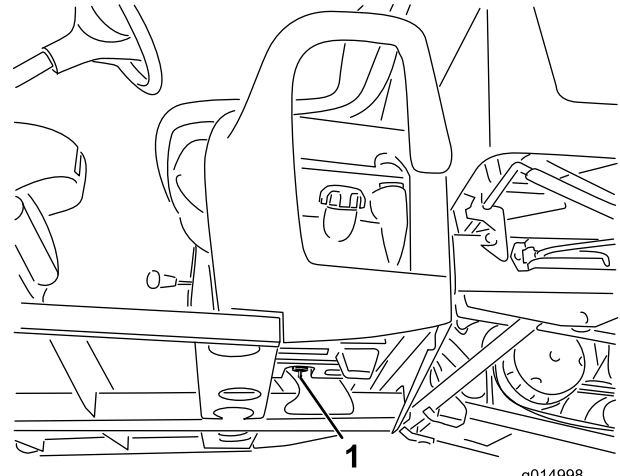

Figure 25
- Check the air filter opening in the carbon canister and ensure that it is clean and free of debris and obstructions (Figure 25).